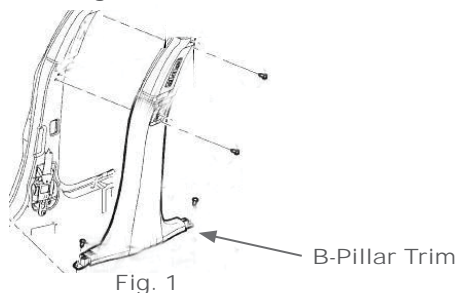

Fig. 1
- A. Locate the partition instructions and follow the steps for removal and installation of the B-pillar brackets on the driver and passenger sides. This will require a T15 torx bit. Only the B-pillar brackets and trim need to be installed before the seat and floor pan. (See Fig. 1)